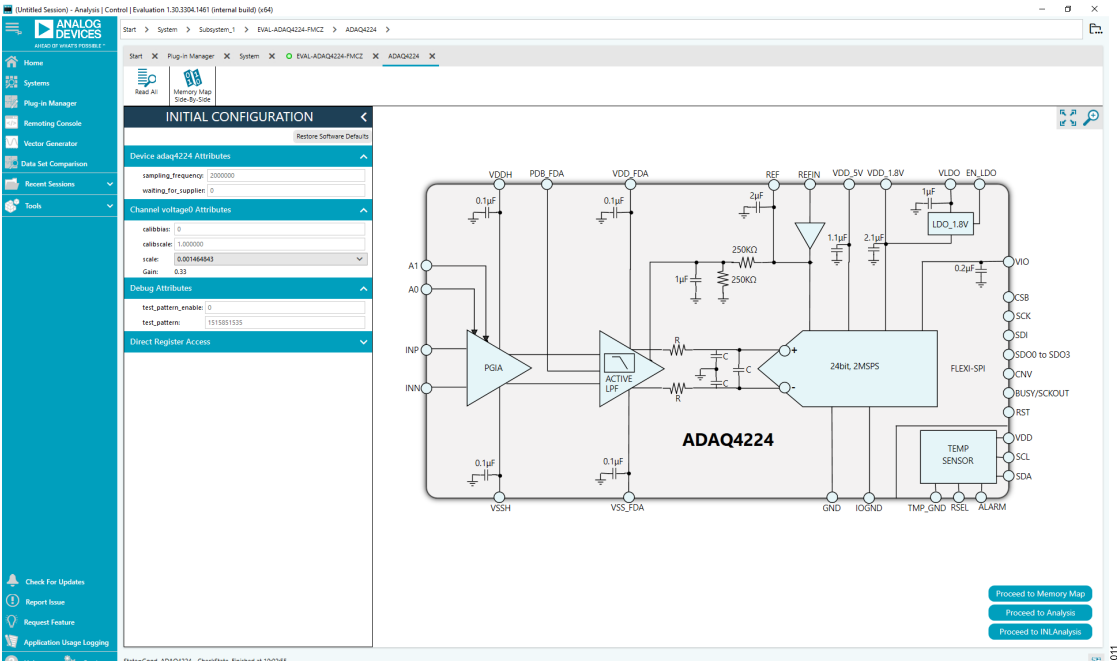
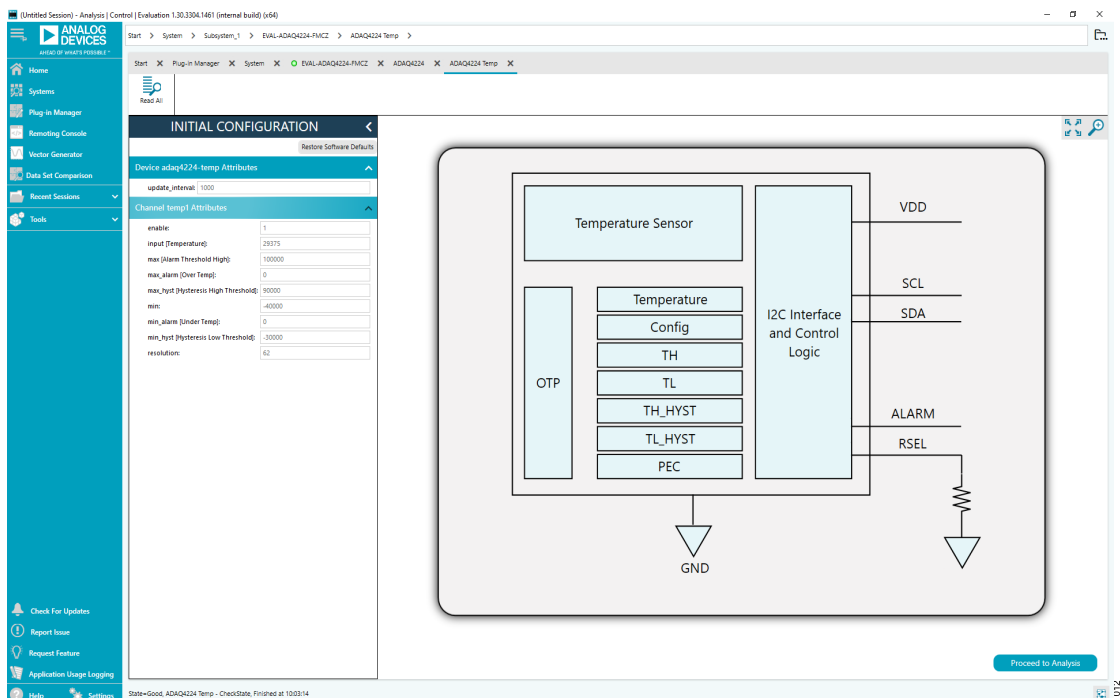

Figure 11. ADAQ4224 Chip View Window
Figure 12. Temperature Sensor Chip View Window
5. Double-click **ADAQ4224** chip icon in the Board view tab to open the Chip view tab, as shown in Figure 11. The user can set the sampling frequency, calibration registers, and the gain on the Chip view tab. Click **Restore Software Defaults** button to change back to the default settings. Double-click **TEMP SENSE** chip icon in the Board view tab to open the Temperature Sensor Chip view tab, as shown in Figure 12.
The temperature sensor is configured on the Temperature Sensor Chip view, as shown in Figure 12. The temperature values in the attributes are expressed in m°C.